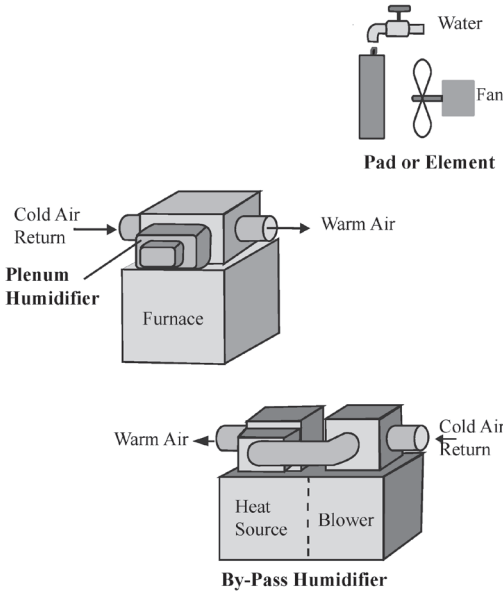

Figure 9-36. Wetted Element Humidifiers
- Stationary pad (Figure 9-36), where air is drawn from the furnace plenum or supply air duct by a fan, blown over an evaporator pad, and returned to the air distribution system.